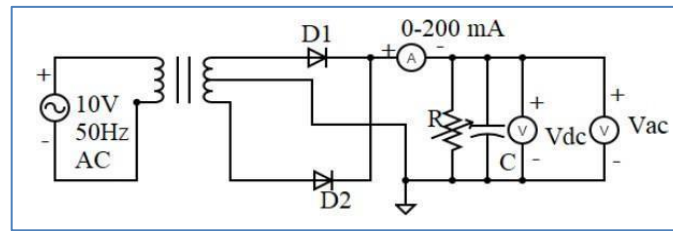

Fig 4.4 Full wave rectifier with filter
4.4 Verification of Full wave rectifier with filters using hardware shown in fig 4.4 and draw the waveforms.